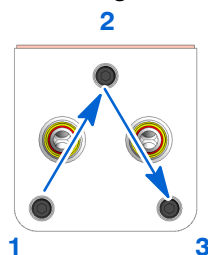

Figure 7 Assembling Manifolds
**NOTE:** Install the manifold with the the Nordson® logo in front as shown in Figure 7.
- a. Tighten screws (14) two turns at a time using an alternating pattern until pinch valve manifold (9) contacts the lower manifold body (11).
14. See Figure 7. Use retained M5 x 100 screws (20) with lock washers (15) and flat washers (16) to secure the top (6), upper Y (8), and pinch valve (9) manifolds together.
- a. Tighten screws (20) two turns at a time using an alternating pattern until pinch valve manifold (9) contacts upper Y manifold (8).